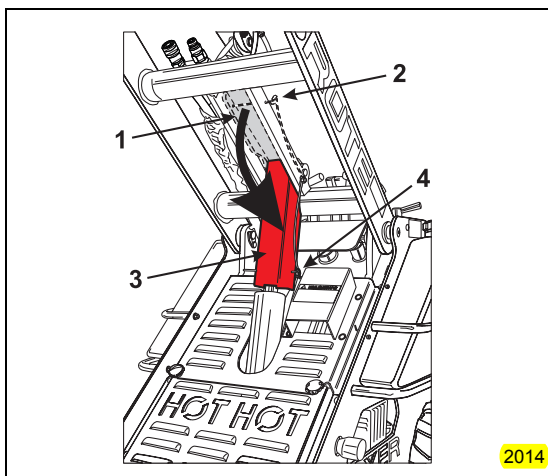

Figure 3–6 Safety Lock Installation
4. While holding the loose end of the cylinder lock (Item 1, Figure 3–6), pull the safety lock pin (Item 2, Figure 3–6) outwards, releasing the cylinder lock.
5. Pivot the cylinder lock downwards to the support position (Item 3, Figure 3–6).
6. Fully reinsert the safety lock pin (Item 4, Figure 3–6), securing the cylinder lock in the support position.
3. Pull the safety lock pin (Item 4, Figure 3–6) fully outwards.
4. Rotate the cylinder lock (Item 3, Figure 3–6) upwards to the storage position (Item 1, Figure 3–6).
5. Fully insert the safety lock pin (Item 2, Figure 3–6) to secure the cylinder lock in the storage position.